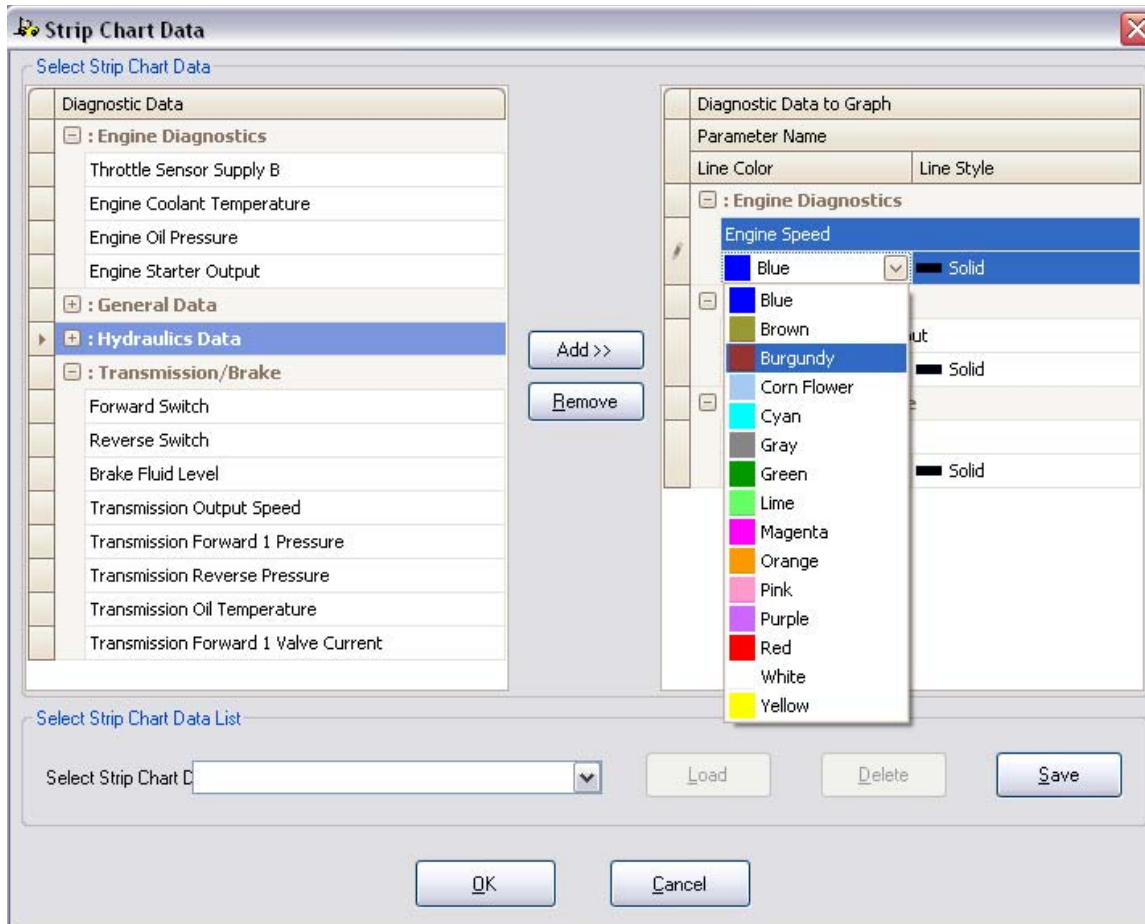

Figure 16: Select Strip Chart Window
1. Select **Diagnostics >> Strip Chart**. This displays the Strip Chart window as depicted in Figure 16.